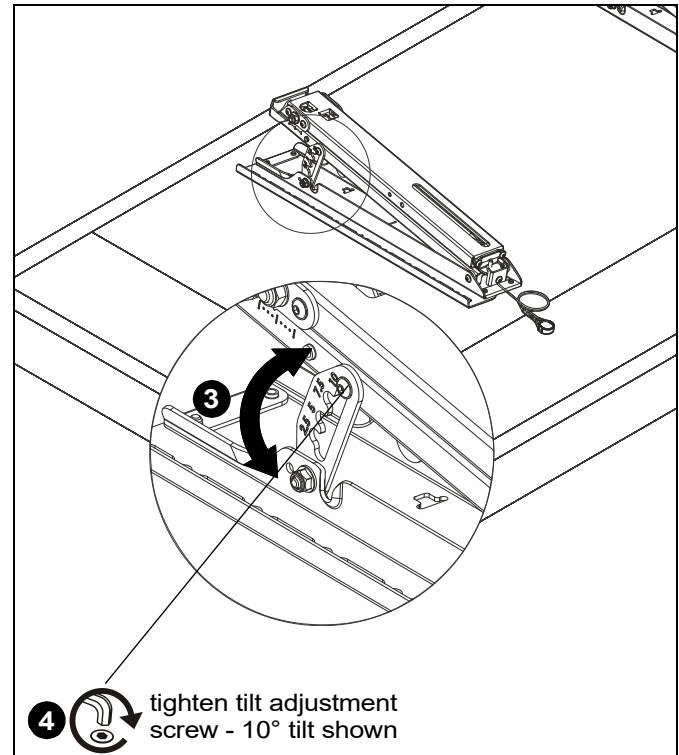

Figure 33
3. Adjust tilt to desired tilt angle. (See Figure 33)
4. Tighten tilt adjustment screws to lock tilt position. (See Figure 33)
2. Refer to height adjustment markings on side of each interface bracket (A and B) to check adjusted height of each bracket. (See Figure 33)